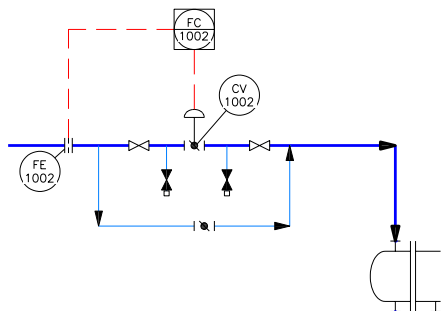

Figure 2-75 Position of the **Primary Accessible DCS**
11. Place the instrument symbol on the electric signal line, as shown in Figure 2-75; the **Assign Tag** dialog box is displayed.